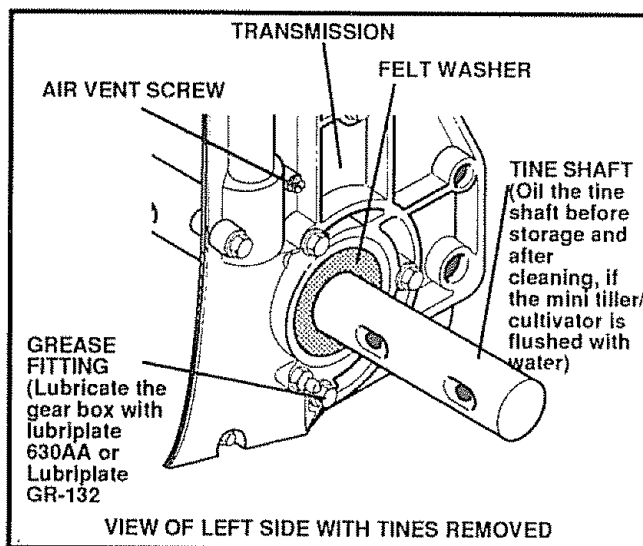

FIG. 9
- Remove the air vent screw (see Fig 9) from the top left side of the transmission.
- Check the condition of the felt washer in the side of the transmission at the tine shaft (see Fig 9). Replace the felt washer if it is damaged (see **Repair Parts** section in this manual)